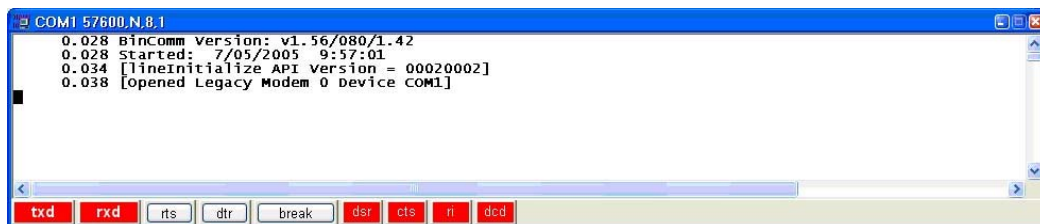

Fig. 7.2: Floating Terminal Screen
- 7.3 A Floating Terminal screen should appear. Fig. 7.2